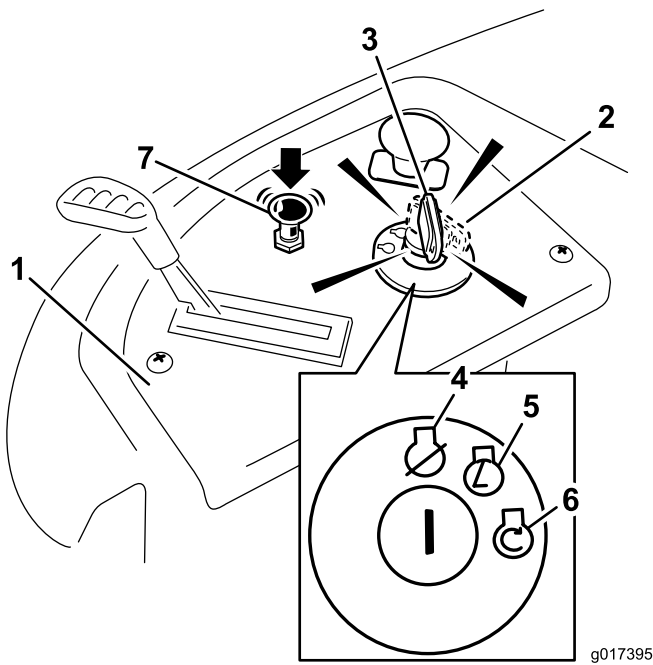

Figure 14
4. Turn the ignition key to Start to energize the starter. When the engine starts, release the key (Figure 14).
5. After the engine starts, push down on the Choke control (Figure 14). If the engine stalls or hesitates, pull up on the Choke control and let the engine run for a few seconds. Then push down on the Choke control. Repeat this as required.
3. Turn the ignition key to Off (Figure 14) and remove the key.